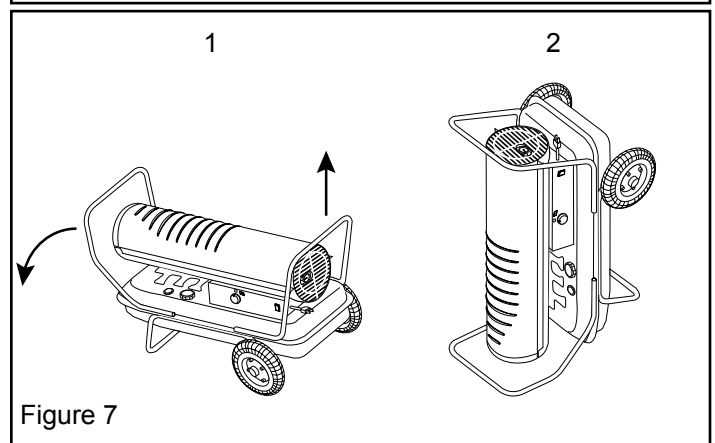

Figure 7
**i** **Tip: You will secure the back of the rear handle in a later step by tilting the heater up the front handle as shown in figure 7**